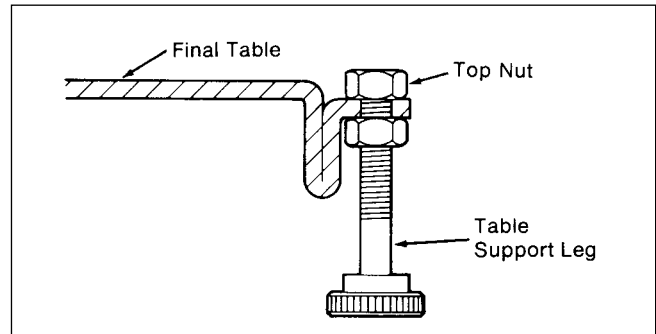

Fig. 2c
3. Thread a 1/4 - 20 nut onto the exposed thread of the table support leg and tighten (figure 2c).